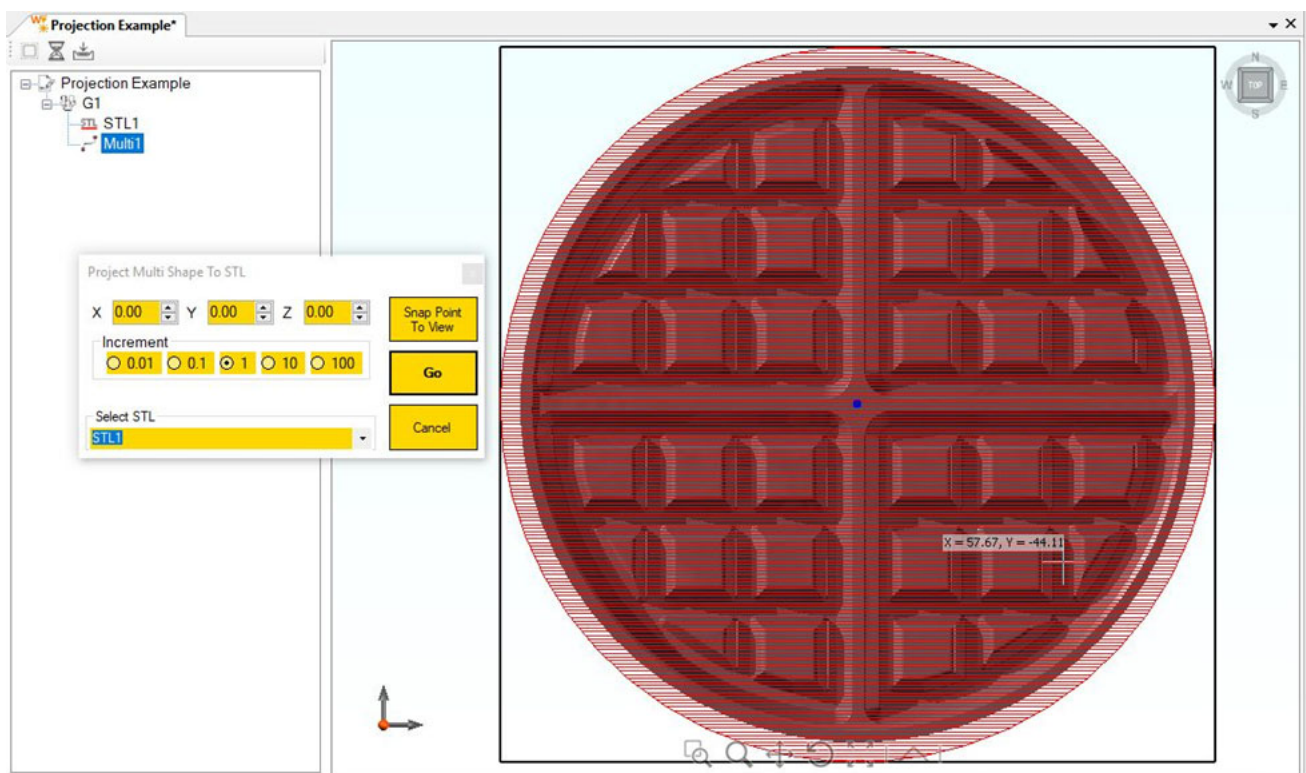

Figure 135: Projection Point
8. Next, the user needs to align the projection point. The projection point appears as a blue dot in the IPGScan Canvas (see Figure 135).